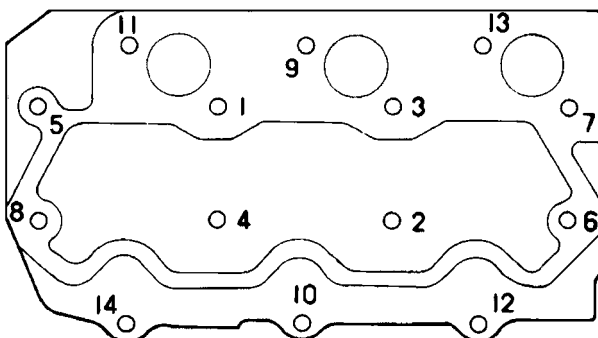

Figure 28
- Using the sequence in Figure 28, torque the head bolts to 48 to 51 Nm.